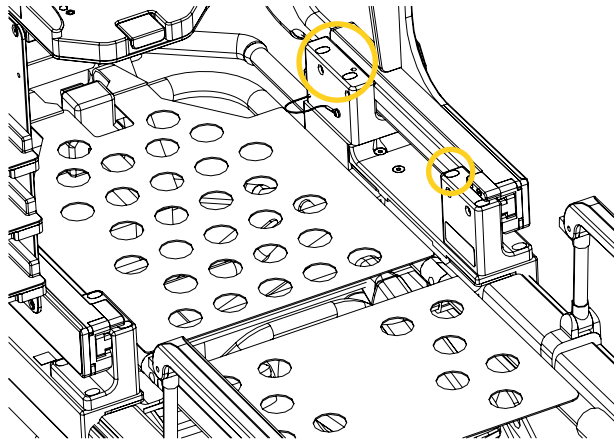

Figure 27: Adjusting the rail system hardware
11. Tighten the three (3) accessible screws located on top of each rail (Figure 27) using an Allen key 3/16 in. Currently inaccessible, the fourth screw will be tightened in a later step.